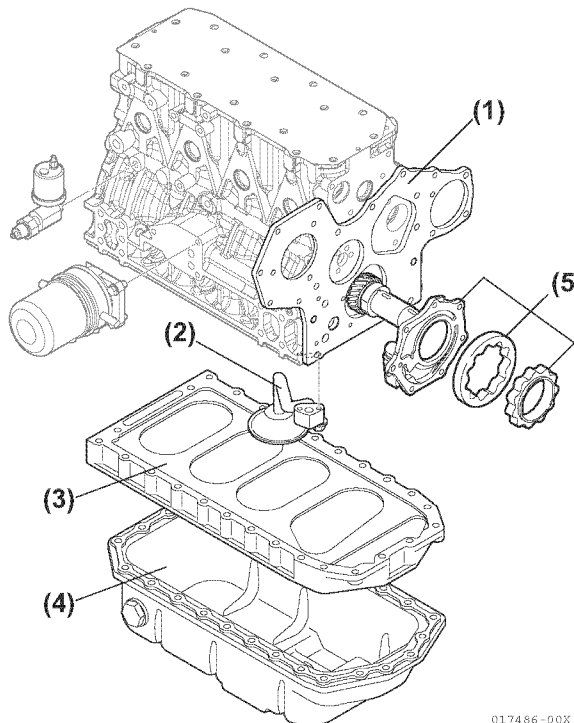

Figure 5-46
38. Remove the oil pan and spacer (**Figure 5-46**).
- 39. Remove the lubricating oil inlet line and gasket (Figure 5-46).